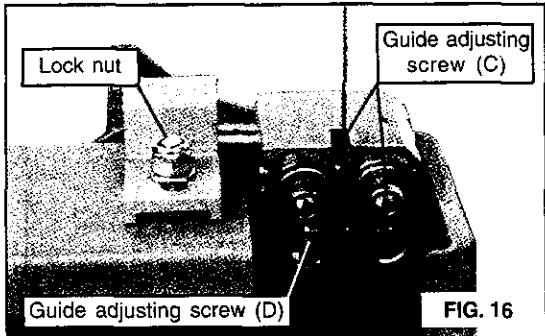

FIG. 17
- Using a M6 hex. "L" wrench (not provided) to release the hex. socket head cap screw on motor mounting flange. (See Fig. 17)